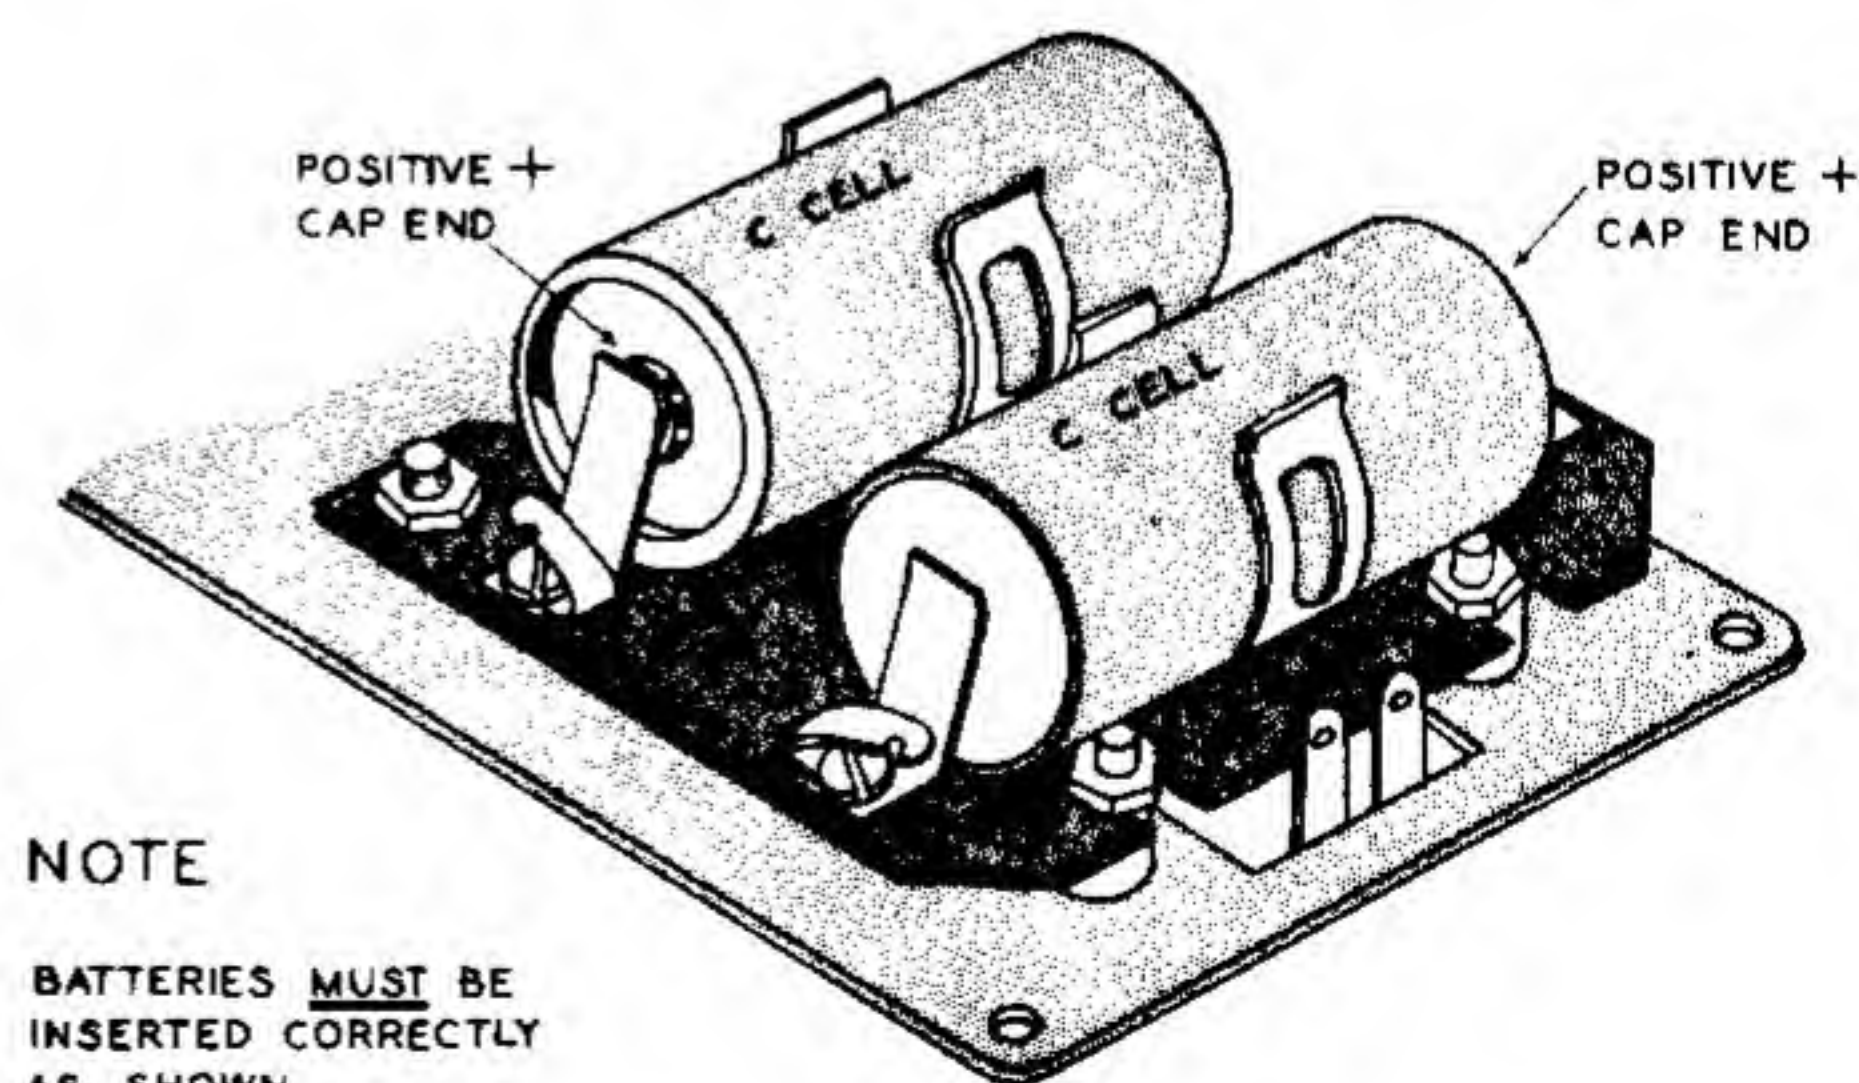

Figure 9
- () Refer to Figure 9 and, noting the position of the battery caps, install the two size "C" batteries by pulling out slightly on the one spring contactor and pushing the battery against the other. Apply only sufficient pressure to allow the battery to slip into place. NOTE: If the contactors are sprung too far out to make contact with the battery, or if the batteries are installed without proper regard to polarity, your Code Oscillator will not operate!